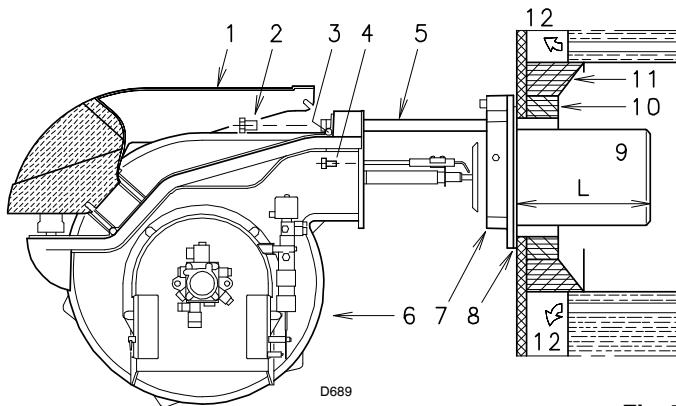

Fig. 7
### 5.4 Blast tube length (Fig. 7)
For boilers having a water-cooled front the refractory fettling 10)-11)(Fig. 7) is not required unless it is expressly requested by the boiler manufacturer.
Once this operation has been carried out (if it was required), secure flange 7) (Fig. 7) to the boiler plate interposing the supplied gasket 8). Use the 4 screws provided after having protected the thread with anti-seize products (high-temperature grease, compounds, graphite).
- Retract the burner on its slide bars as shown in (Fig. 7 pag. 12).